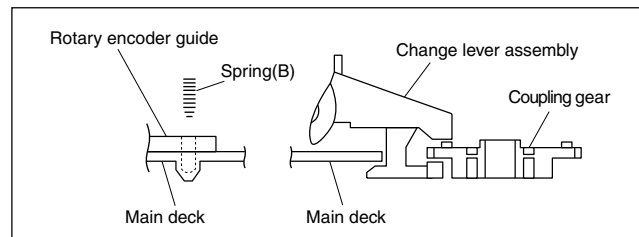

Fig. 2-2-12b
- (2) Let the spring (B) drops into the rotary encoder guide hole and install the change lever assembly. (Take care not to mistake a direction of the spring.) The point is to slightly lift the coupling gear and catch it from the both sides with the assembly. (See Fig.2-2-12b.)